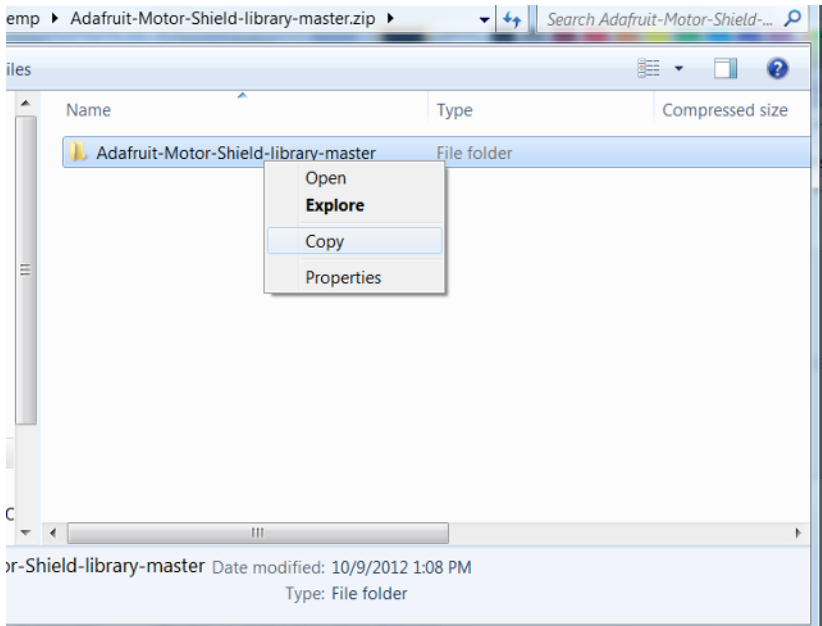

Figure 4-6. Copying the library out of the ZIP file
1. Open the ZIP file and copy the library's top-level folder or whatever the main folder is named, as shown in Figure 4-6.